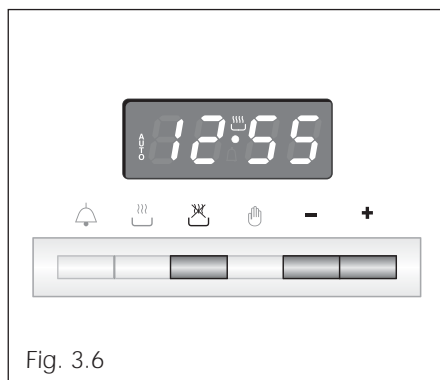

Fig. 3.6
2. Set the end of the cooking time by pressing the  button (the cooking time already added to the clock time will appear), and the  button (fig. 3.6); if you pass the desired time you may get back by pushing the  button.